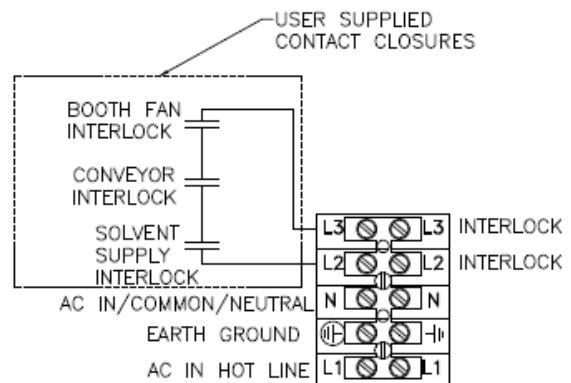

Figure 10: TB1 Interlock Wiring
4. Using a shielded cable for the interlock wiring (supplied by user), route through the interlock connector on the side of the 9060 Controller and terminate TB1-L2 and TB1-L3 as shown in Figure 10 and 12. The shielded cable must have a minimum rating